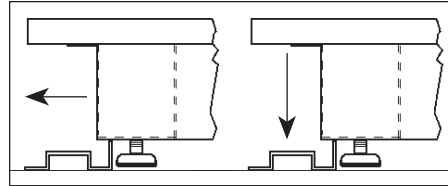

Fig. 1
5. Position floor brackets so the open slot is facing forward and align with the marked foot locations. See Fig. 1. Verify the center to center dimensions given in Fig. 1.